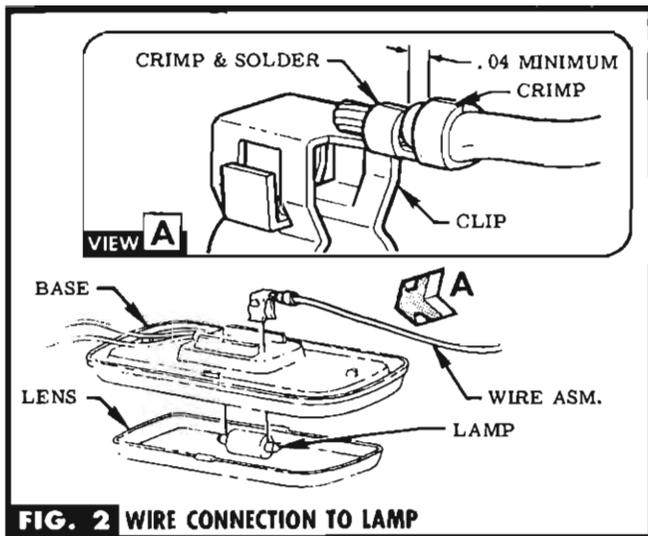

FIG. 2 WIRE CONNECTION TO LAMP
STEP 1a REMOVE BULB & SOCKET FROM EACH SUPPORT & ALTER SUPPORT AS SHOWN. REASSEMBLE SOCKETS, SUPPORTS & BULBS. SEE FIG. 2. **NOTE** If gasoline heater exists, lamp support must be straightened to eliminate bend.
STEP 4 CRIMP & SOLDER BARE END OF WIRE TO CLIP. REMOVE LENS FROM LAMP ASM. INSERT CLIP INTO BASE. INSERT LAMP INTO CLIPS. REPLACE LENS. SEE FIG. 2 & VIEW A.